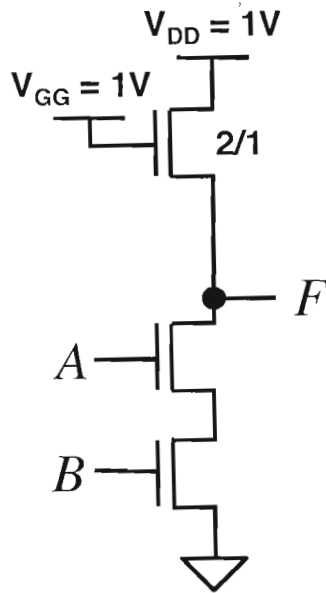

Figure 2: Logic gate. Some transistor  $W/L$  ratios are labeled in the figure.
**Problem 2.1 (1 point) Circuit Function.** Figure 2 shows a logic circuit which implements one of the two-input logic functions listed below. Circle which one:
**Problem 2.4 (8 points) Circuit Sizing.** Using the transistor parameters in Table 1, the pullup sizing in Figure 2, assuming  $V_{GG} = 1.2V$ ,  $V_{DD} = 1V$ , and the voltages on inputs  $A$  and  $B$  are between  $V_{DD}$  and  $0V$ , find the smallest  $W/L$  ratios for the pulldown transistors which result in a valid low output that satisfies  $V_{OL} \leq 0.1V_{DD}$ . Solve exactly for  $W/L$ .
**Problem 2.5 (2 points) Static Power "Activity" Factor.** Assume inputs  $A$  and  $B$  are independent, identically distributed, binary random variables with equal probability of being a 0 or a 1. What percentage of time does the circuit in Figure 2 dissipate static power? Justify your answer.